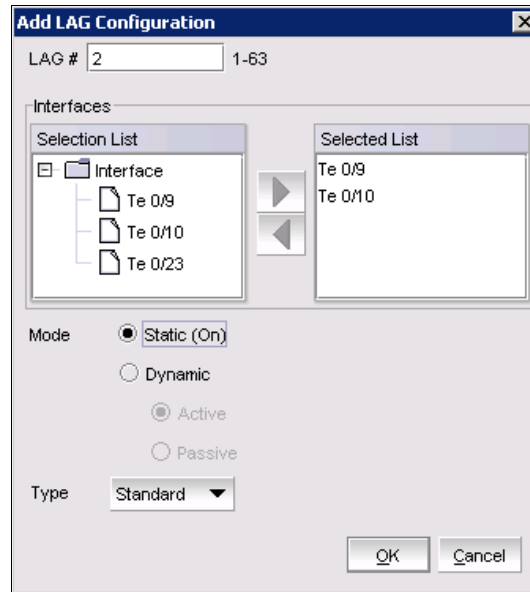
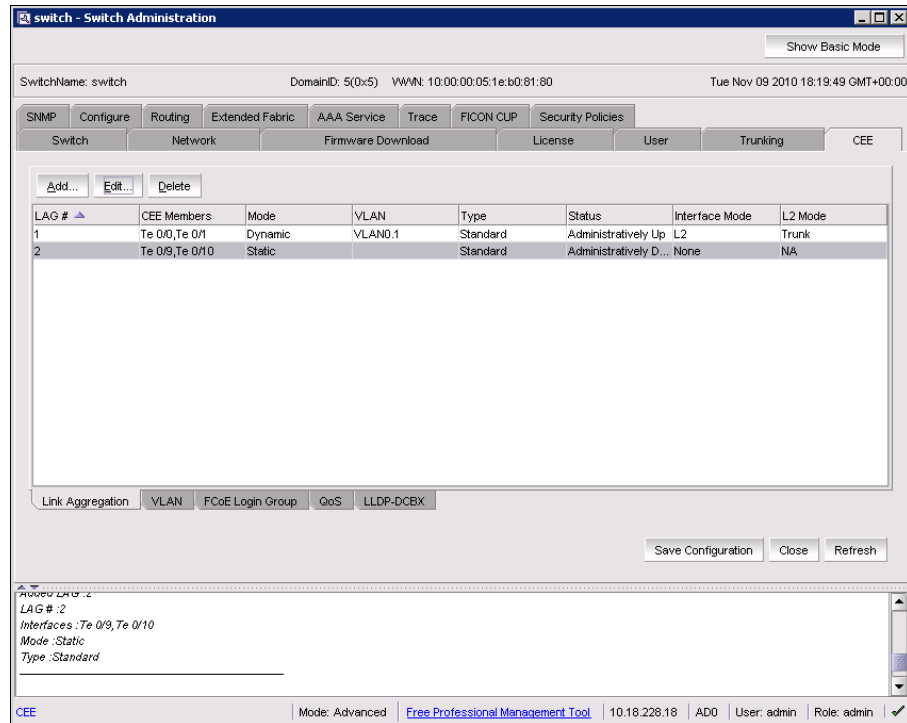

Figure 5-23 Add LAG configuration
Figure 5-24 Added LAG
7. Figure 5-23 on page 169 shows the selections and entries we made in the lab. When you have completed your LAG configuration, click **OK**. The new LAG is listed in the *Link Aggregation* tab (Figure 5-24).